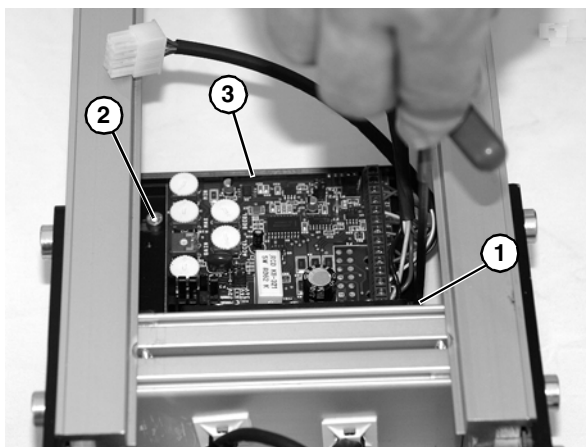

Figure 68
4. Remove hex head screw (**Figure 68, item 1**), and loosen hex head screw (**Figure 68, item 2**). Remove circuit board (**Figure 68, item 3**) from conveyor frame.